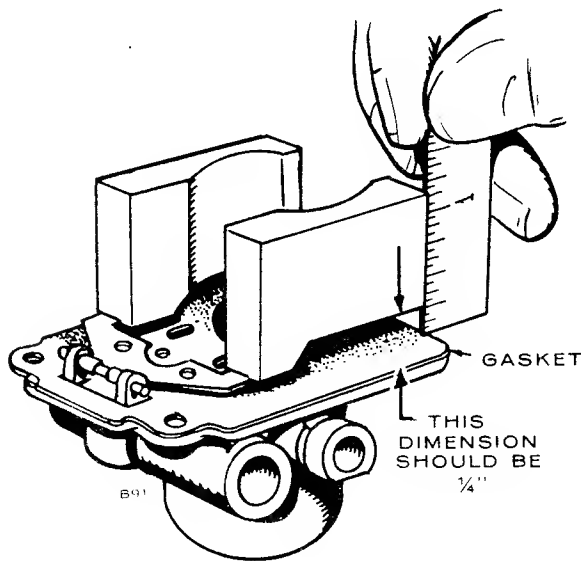

FIGURE 13. CARBURETOR FLOAT SETTING
3. With the carburetor casting inverted and the float resting lightly against the needle and seat, there should be 1/4-inch clearance (6.35 mm) between the bowl cover gasket and the free end of the float (side opposite needle and seat). See Figure 13.